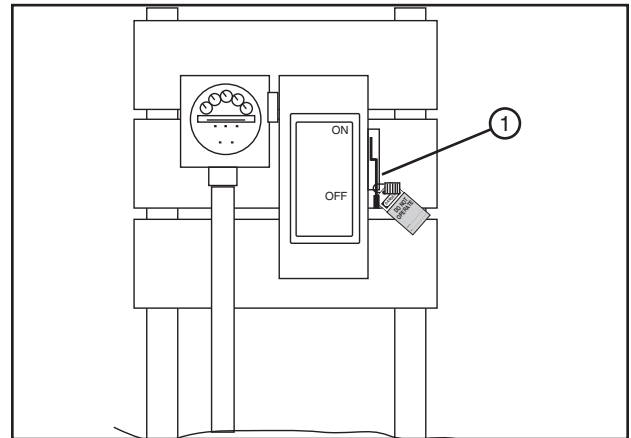

Figure 65-1 1. Public Power Service Disconnect
1. SHUT OFF and LOCK the public power service disconnect to the irrigation machine. See figure 65-1.
FILL OUT the blue (OSHA safety color code) tag and attach to the disconnect after locking. See figure 65-1.